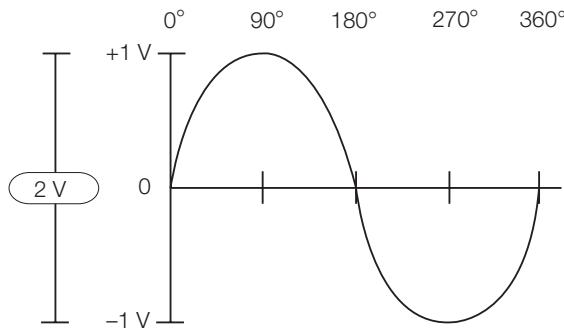

Figure 11. Amplitude and degrees of a sine wave.
Amplitude refers to the amount of voltage between two points in a circuit. Amplitude commonly refers to the maximum voltage of a signal measured from ground, or zero volts. The waveform shown in Figure 11 has an amplitude of 1 V and a peak-to-peak voltage of 2 V.
**Phase** is best explained by looking at a sine wave. The voltage level of sine waves is based on circular motion. Given that a circle has 360°, one cycle of a sine wave has 360°, as shown in Figure 11. Using degrees, you can refer to the phase angle of a sine wave when you want to describe how much of the period has elapsed.